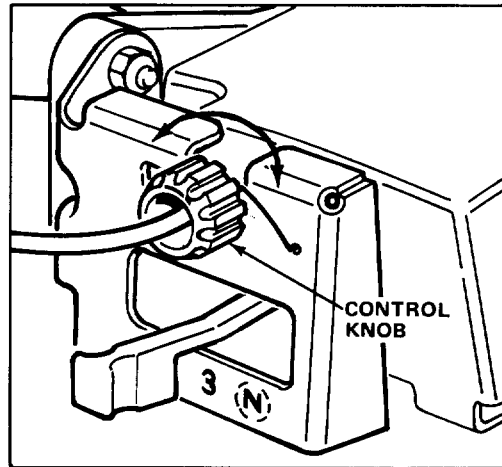

Figure 18
2. **ADJUSTMENT** (Fig. 18)–Rotate control knob clockwise 1/2 turn if mower does not self-propel. If mower creeps forward, rotate knob 1/2 turn counterclockwise to loosen belt.